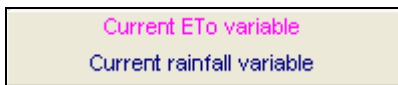

Figure 10.0.8
In the legend at the bottom of the **Weather station** window you will see two (2) entries (Figure 10.0.8)